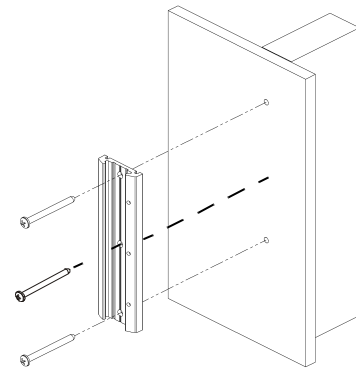

Figure 1. Secure Wall Plate
3. Using three Phillips head #10 wood screws (supplied), secure the wall plate (see Figure 1).